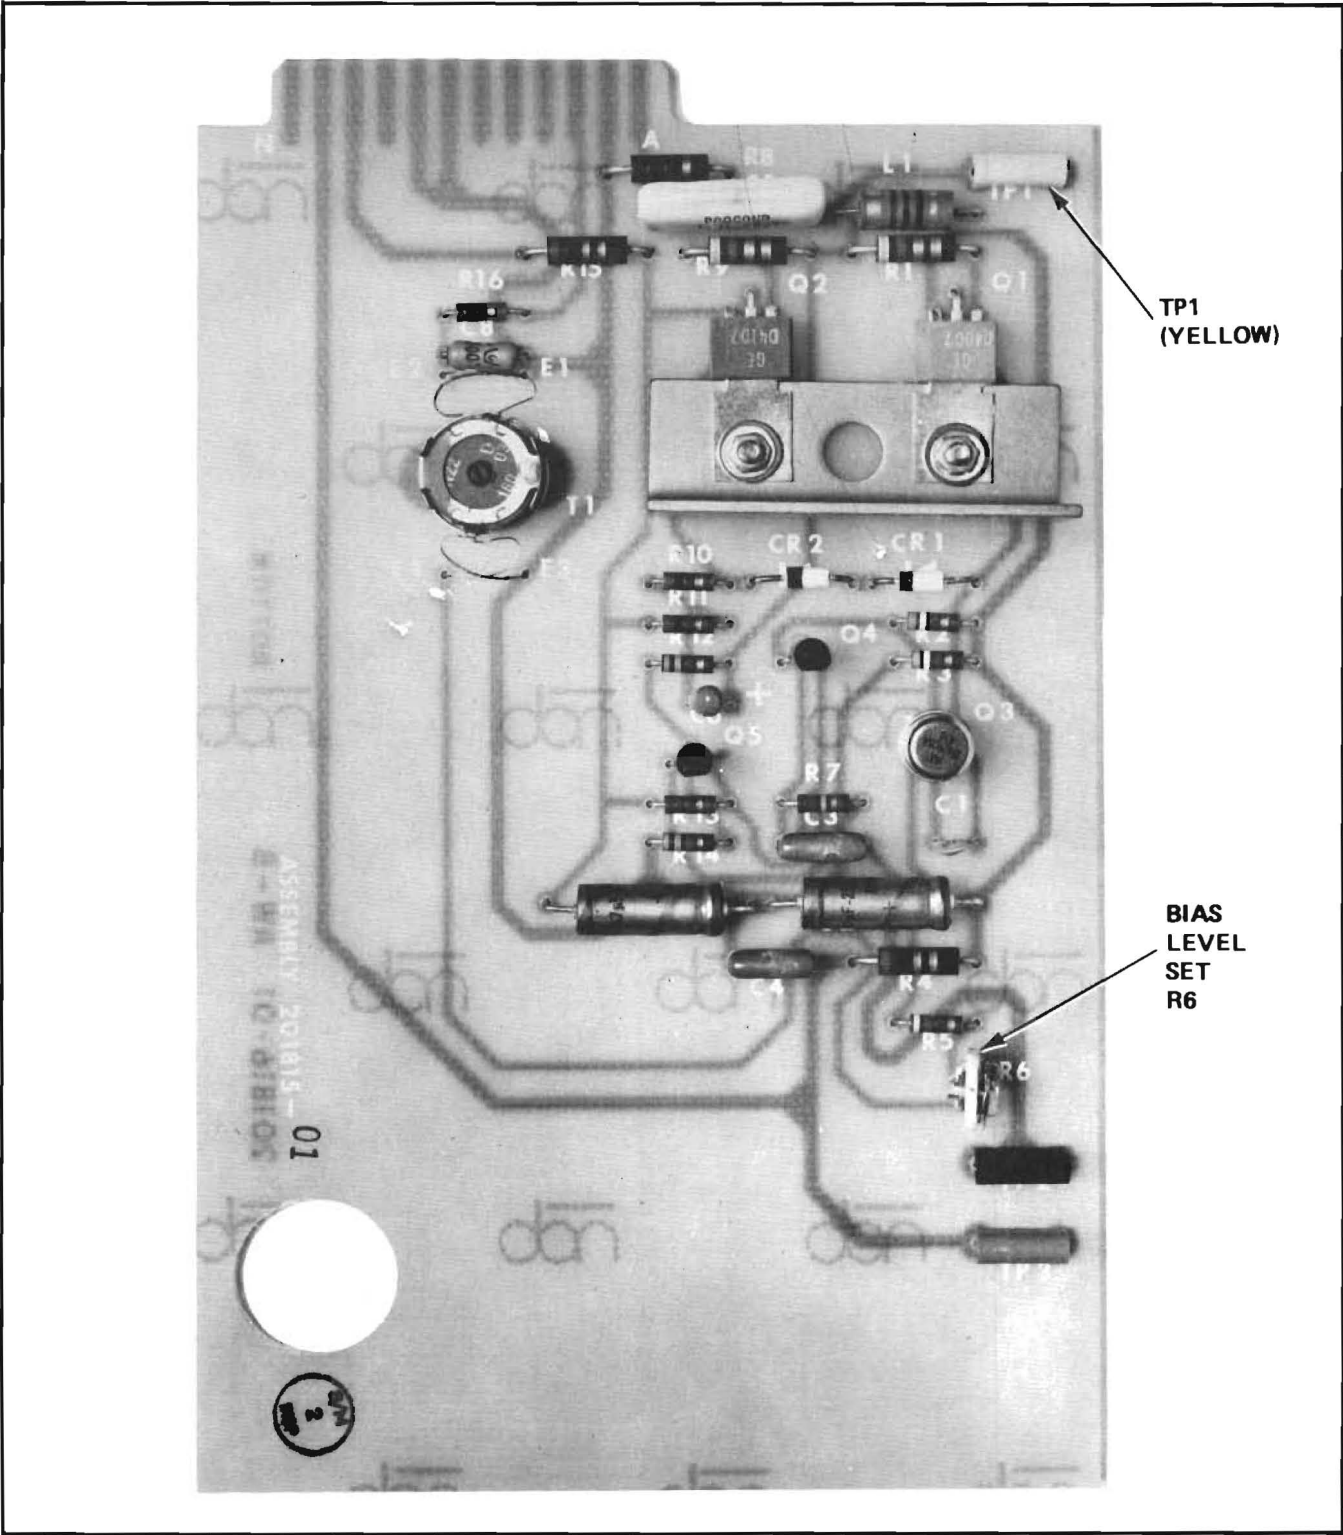

Figure 7-16. Bias Amplifier PWA Adjustment and Test Points
- C. On four-track systems, repeat steps A and B to adjust R6 on the bias amplifier PWA (Figure 7-16) for channels three and four.